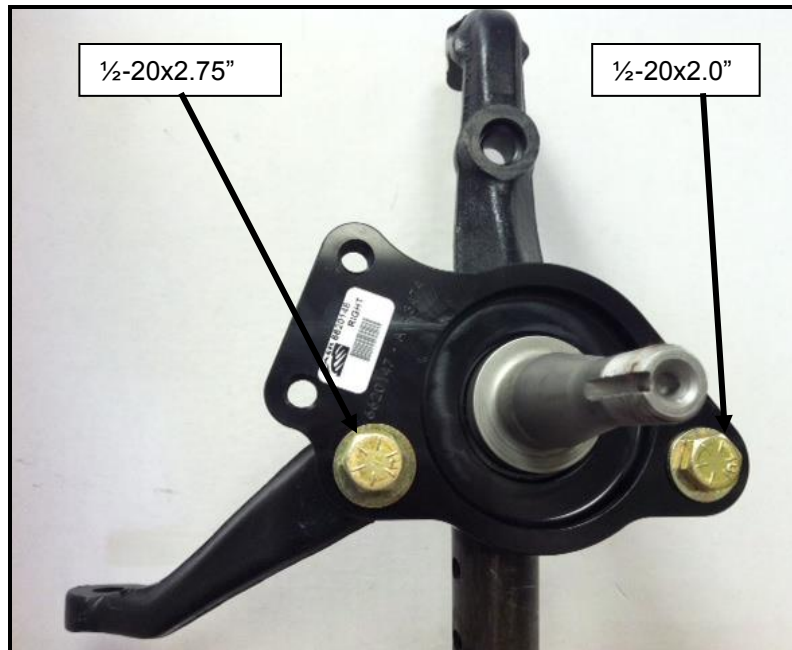

Figure 4: Base bracket installed onto spindle
5. Install the new base bracket to the spindle using the supplied bolts, nuts, and washers. See Table 1, below for specs, and Figure 4 for reference.